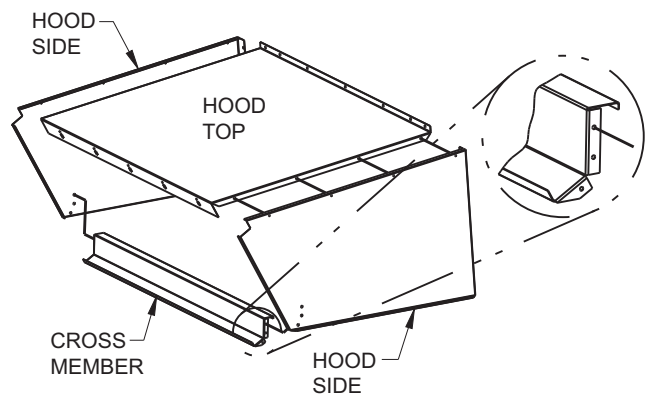

Fig. 21 — Economizer Hood Assembly
3. Assemble hood sides, top, and cross member with gasketed screws provided. See Fig. 21 for economizer assembly.